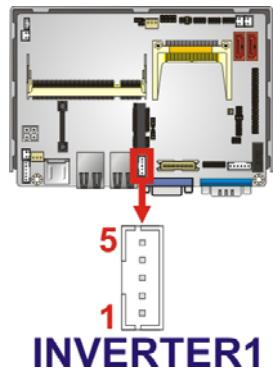

Figure 3-11: Backlight Inverter Connector
**CN Location:** See Figure 3-11